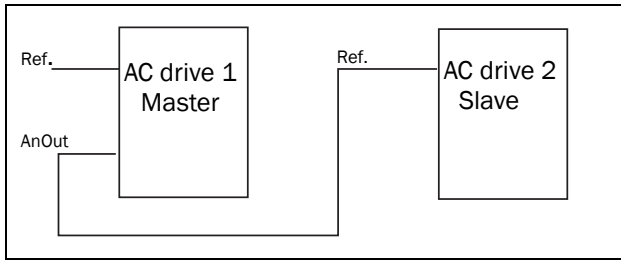

Fig. 97
- a reference signal for the next AC drive in a Master/Slave configuration (see Fig. 97).